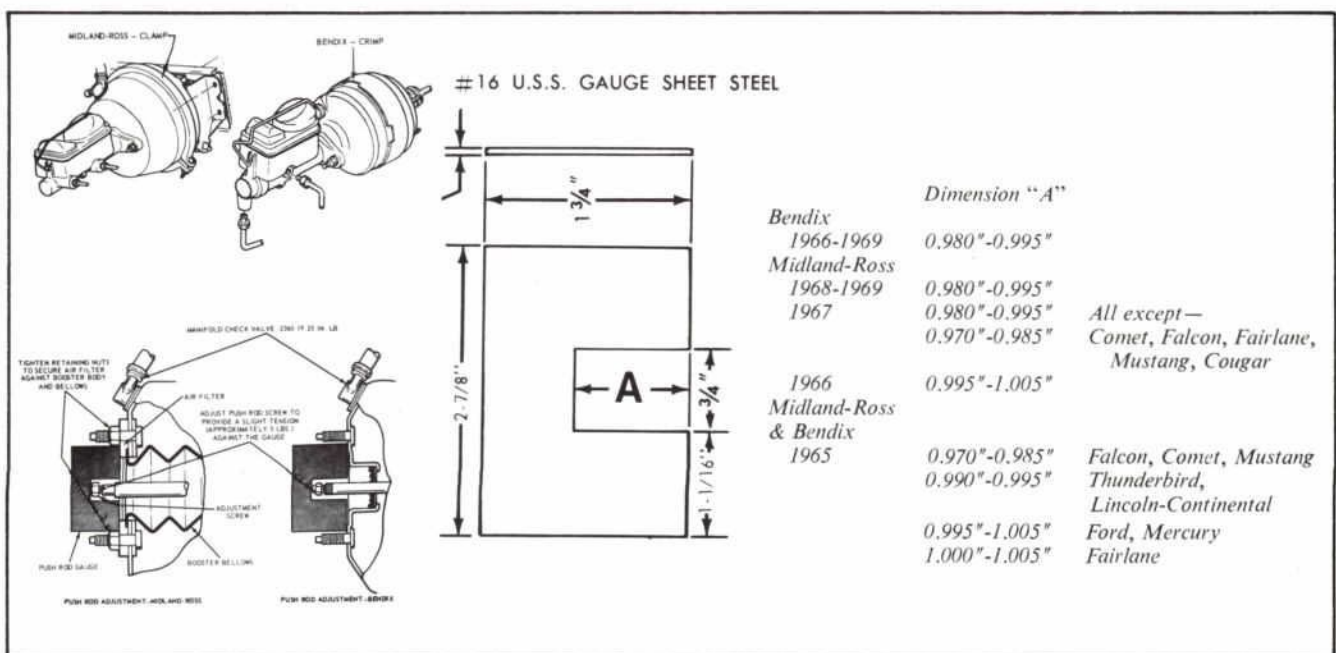

Figure 5—Push Rod Gauge Dimensions
4. Place the gauge against master cylinder mounting surface of air filter assembly (Fig. 5).